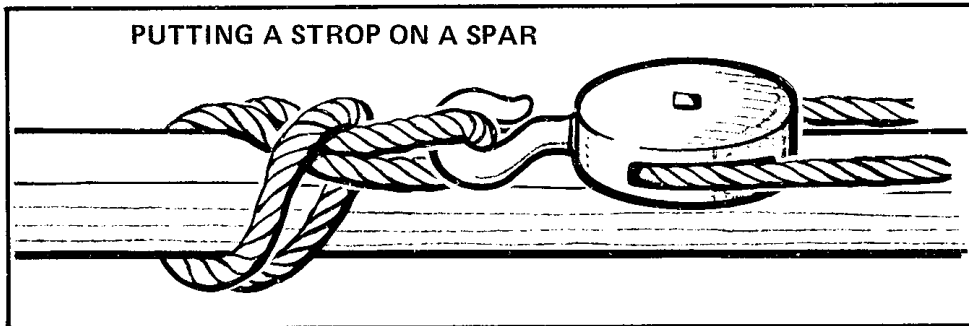

Figure 4-80 Putting a Strop on a Spar
48. **To Put a Strop on a Spar** — Use a common strop, as shown in Figure 4-80. If the pull is from one side, so that a strong grip is required, use a selvagee strop in a similar manner.